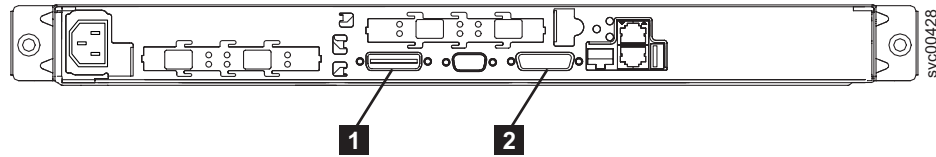

Figure 157. SAN Volume Controller 2145-4F2 CT2 IN and CT2 OUT ports
- 1) Order a CT2 cable (part number 00N7004). The cable is a 3-in-1 keyboard, display, and mouse cable that plugs into the C2T OUT port **2** on the rear of the node, as shown in Figure 157 on page 487.